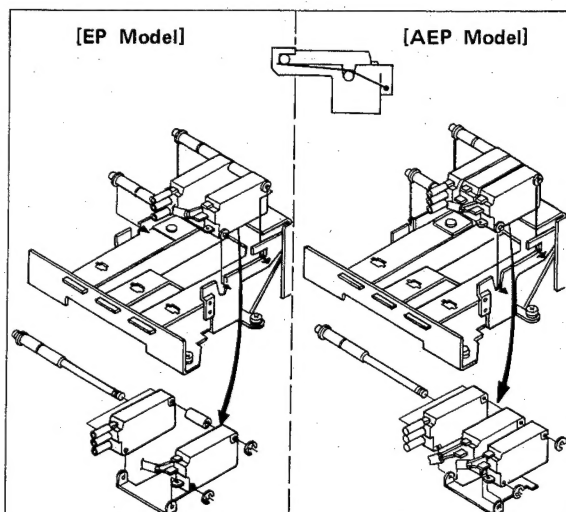

Fig. 2-10. Microswitch replacement
2. Unhook the spring pressing the microswitch holding shaft against its bracket. Carefully draw out the microswitches along with their holding shaft as shown in Fig. 2-10.
3. Remove the retaining rings at one side of the shaft, and then replace the defective microswitch as shown in Fig. 2-10. To reassemble, reverse the aforementioned procedure.